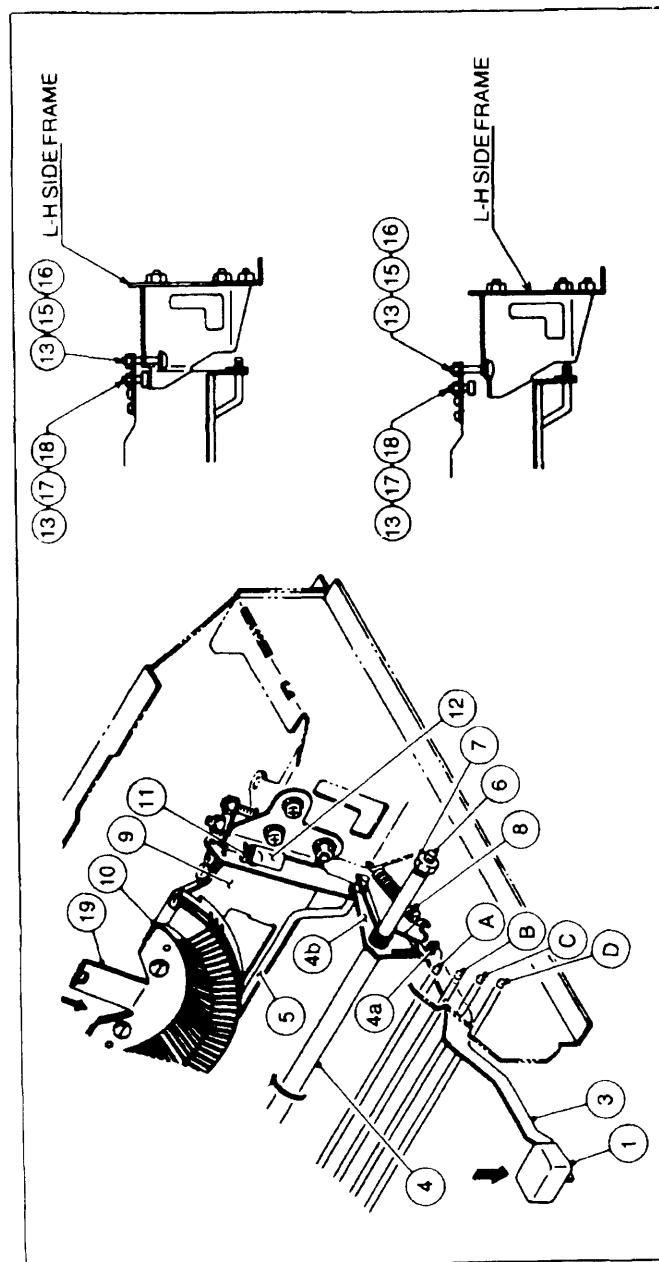

Fig. 2-17. This is the Olympia, Model B-12, shifting mechanism (courtesy of OLYMPIA USA INC.).
To see another shifting mechanism, refer to Fig. 2-17. When the shifting keybutton (1) is pushed down, the shift lever (3) rotates, its pivot point being the key lever shaft (C). This rotates the torsion bar (4), which is retained at the left and right side frames by the shift center (6) and nut (7). Note that the torsion bar is connected to the shift lever (3) by a torsion bar part (4a), and also to the segment hanger shaft (5) and segment base (9) by the torsion bar part (4b). Thus, since the segment (10) is mounted on the segment base (9), the segment base is lowered, placing the typebars in upper case position. When the typist no longer depresses the shift keybutton (1), the torsion bar (4) is returned to its home position by the tension of shift spring (8); and the shift lever (3) and segment base (9) are likewise returned to their home positions.